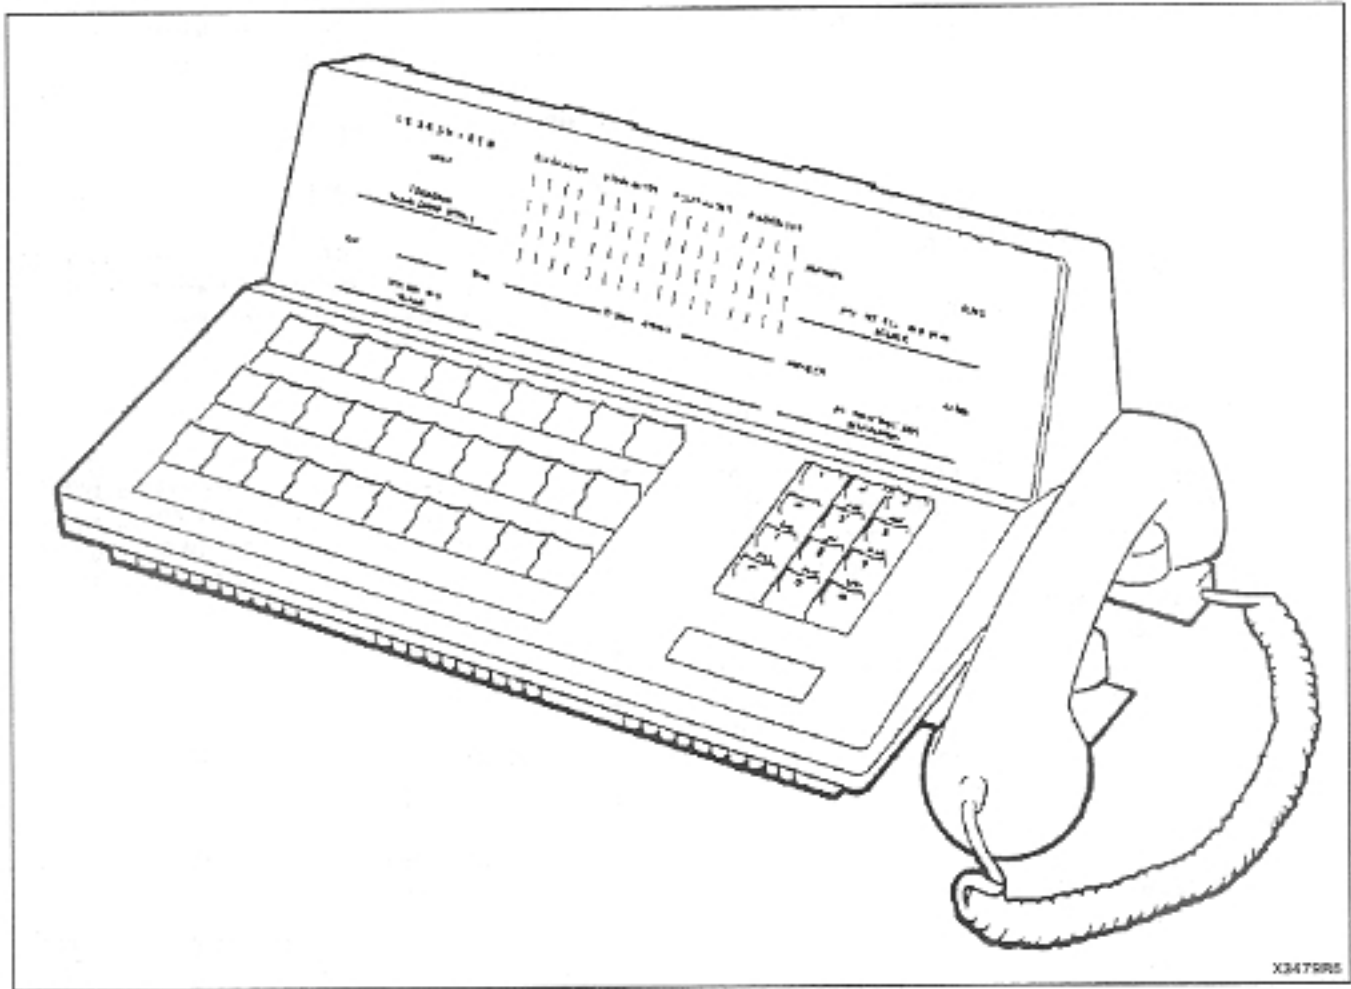

Fig. 2-5 Attendant Console
2.18 The attendant console (Fig. 2-5) is a self-contained unit, connected to the equipment cabinet by a plug-ended 25-pair cable.